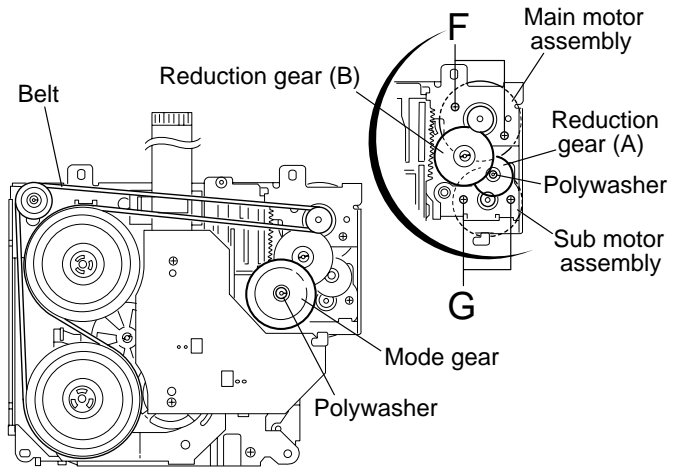

Fig.42
■Removing the main motor assembly / sub motor assembly (See Fig.42 to 44)
3. Pull out the reduction gear (B).
4. Remove the polywasher and pull out the reduction gear (A).